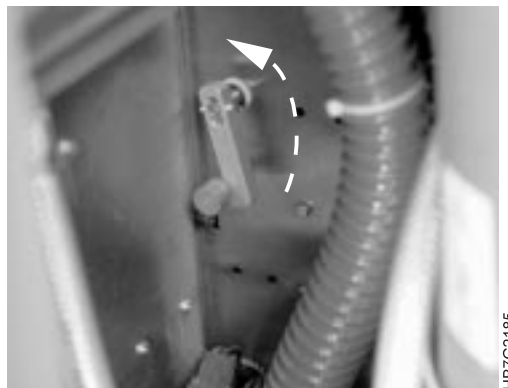

Figure 324. Backup Roll Pressure Handle
- 29** If you found the backup roll pressure handle inside the right fixed tower door, turn the handle in a clockwise direction, as shown in Figure 324. Otherwise, continue with step 29.